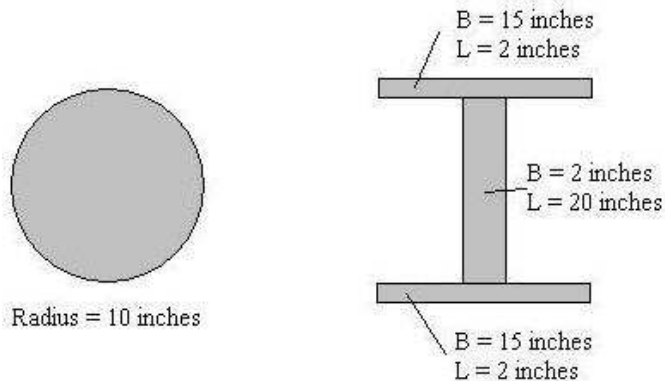

Figure 2: Cross-sectional areas.
2. Calculate the maximum tensile and compressive forces allowed for the following two cross-sectional areas shown in Figure 2. The maximum tensile strength is 3,750 lb/in². The maximum compressive strength is 4,850 lb/in². Use the following equations along with those in #1 to complete the problem. Show your work and calculations.